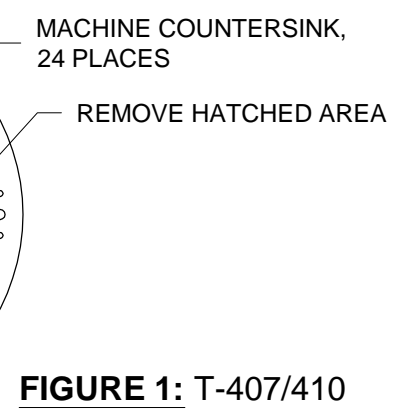
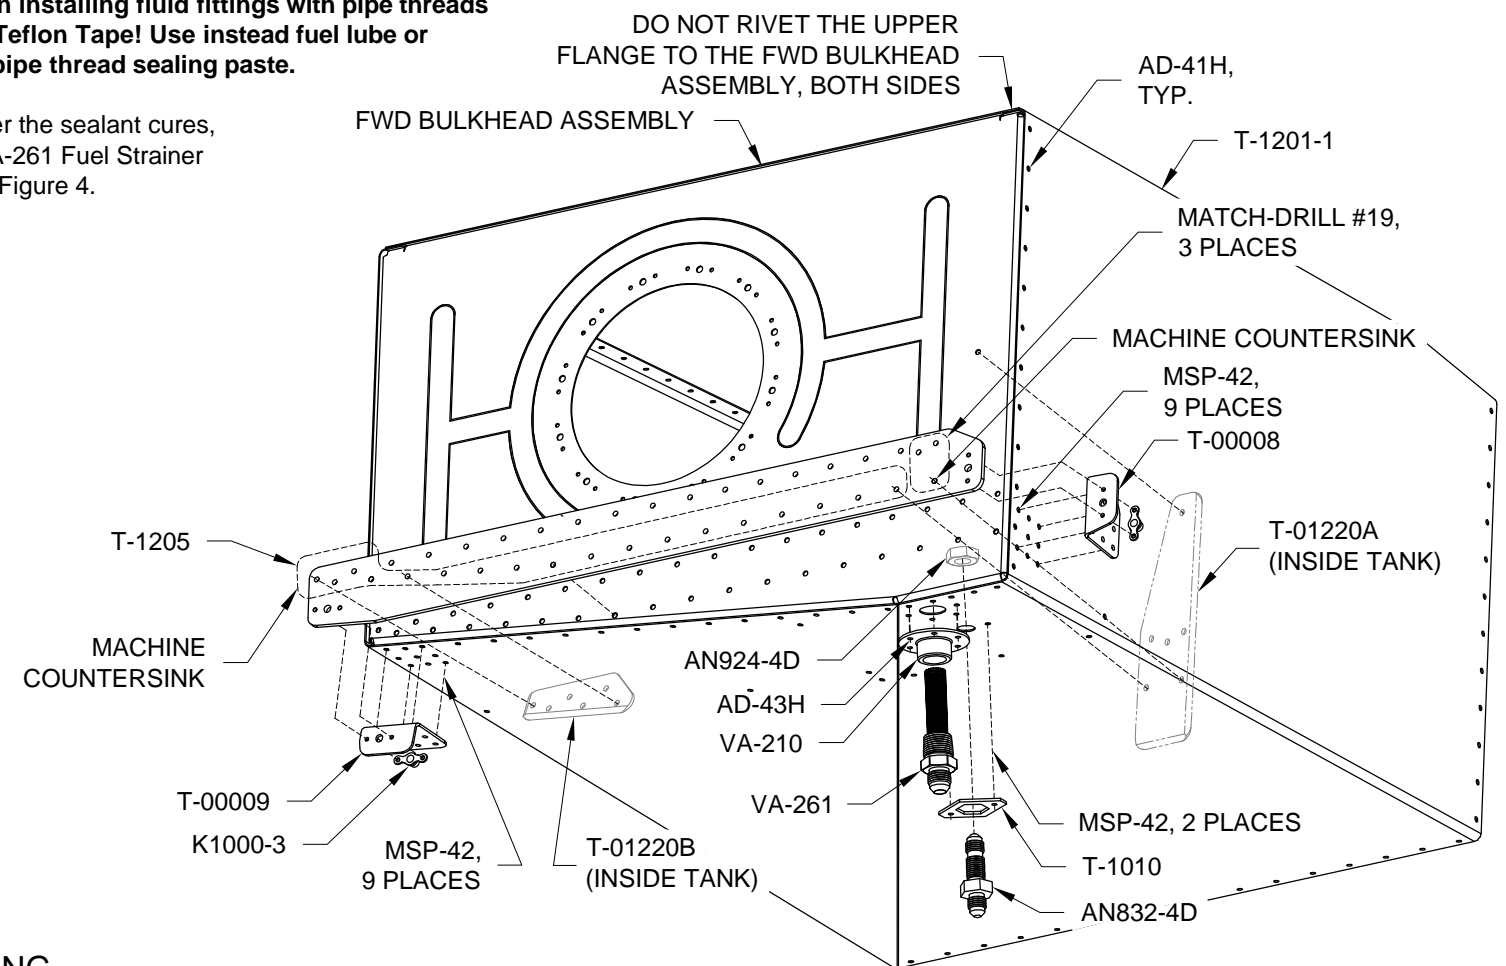

FIGURE 1: T-407/410
FIGURE 4: FUEL TANK ASSEMBLY
Step 2: Remove and discard the area shown in Figure 1 hatched from the T-407 Ring.
Step 7: Cleco together the T-1205 Fwd Tank Bracket, T-1202 Fwd Tank Bulkhead and T-01220A & B Doublers as shown in Figure 4. Radius the edges of the doublers to fit against the bend radii in the fwd tank bulkhead.
Step 8: Match-Drill #19 the three #30 holes called out in Figure 4. Uncleco the parts clecoed together in Step 7.
Step 9: Machine countersink the lower inboard #19 hole on the forward side of the F-1205 Fwd Tank Bracket to fit the head of the screw called out on Page 37-03, Figure 1. See Figure 4.
Step 10: Machine countersink the #30 holes on the forward side of the T-1205 Fwd Tank Bracket called out in Figure 4 to fit the heads of the the rivets called out on Page 37-03, Figure 1. Deburr the edges of the fwd tank bracket.
Step 12: Rivet the VA-210 Fuel Flange and the T-1201-1 Main Tank Skin to the Fwd Bulkhead Assembly per call-outs in Figure 4.
Step 13: Rivet the T-1010 Anti-Rotation Bracket to the T-1201-1 Main Tank Skin per the call-outs in Figure 4.
Step 14: Install the AN832-4D bulkhead fitting to the T-1201-1 Main Tank Skin per the call-outs in Figure 4.
Step 15: Rivet the T-00008 Inboard Clip and T-00009 Outboard Clip to the T-1201-1 Main Tank Skin as shown in Figure 4.
Step 16: Cleco a nutplate to the T-1205 Fwd Tank Bracket and T-00008 Inboard Clip as shown in Figure 4.
Cleco a second nutplate to the fwd tank bracket and T-00009 Outboard Clip as shown in Figure 4.
Step 17: After the sealant cures, install the VA-261 Fuel Strainer as shown in Figure 4.